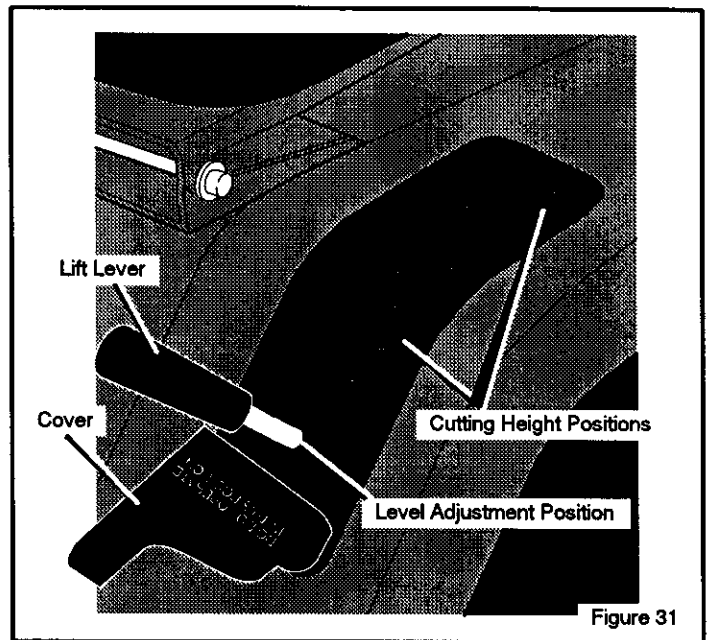

Figure 31
5. Move the lift lever to the LEVEL ADJUSTMENT position (Figure 31).